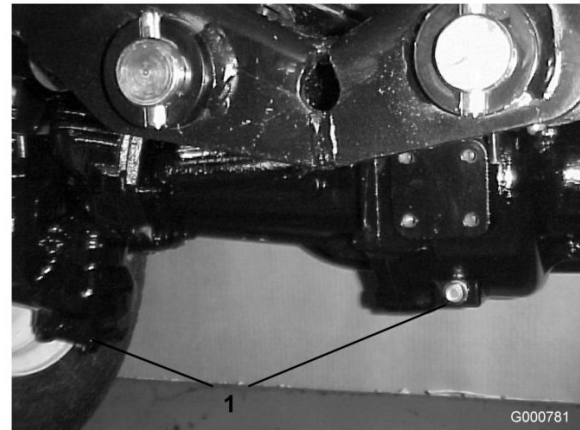

Figure 69
2. Clean the area around the 3 drain plugs, 1 on each end and 1 in the center (Figure 69).